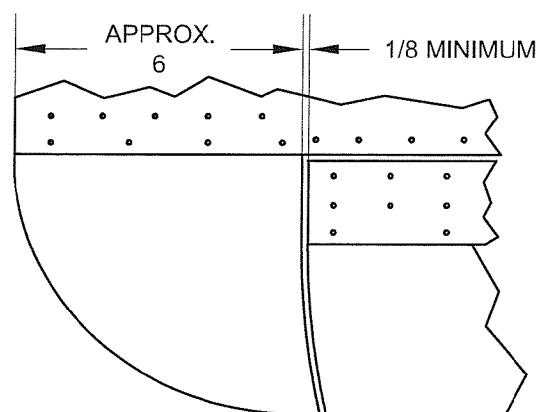

**FIGURE 1: INSTALLING THE R-1011 RUDDER BOTTOM FAIRING**
**Step 1:** Trim the aft edge of the flange on the R-1011 Rudder Bottom Fairing as shown in Figure 1 to remove interference between the flange and the R-1006 Rudder Trailing Edge and allow the fairing to be fully inserted into the bottom of the rudder. Trimming the width of the molded flange may also be required. See Page 12-2, Figure 1 for the correct width.
**Step 4:** Cleco and rivet the R-1011 Rudder Bottom Fairing onto the rudder assembly per the callouts in Figure 1.
**Step 5:** Trim the width of the molded flange on the HS-910 Horizontal Stabilizer Tip Fairing if required to meet the dimensions given on Page 12-2, Figure 1. Progressively trim away the aft edge of the horizontal stabilizer tip fairing to leave a minimum 1/8 inch gap between the aft edge of the tip fairing and the forward face of the elevator counterbalance arm. See Figure 2. It will be necessary to temporarily attach the elevator to the horizontal stabilizer assembly, see Page 11-2, Step 3.